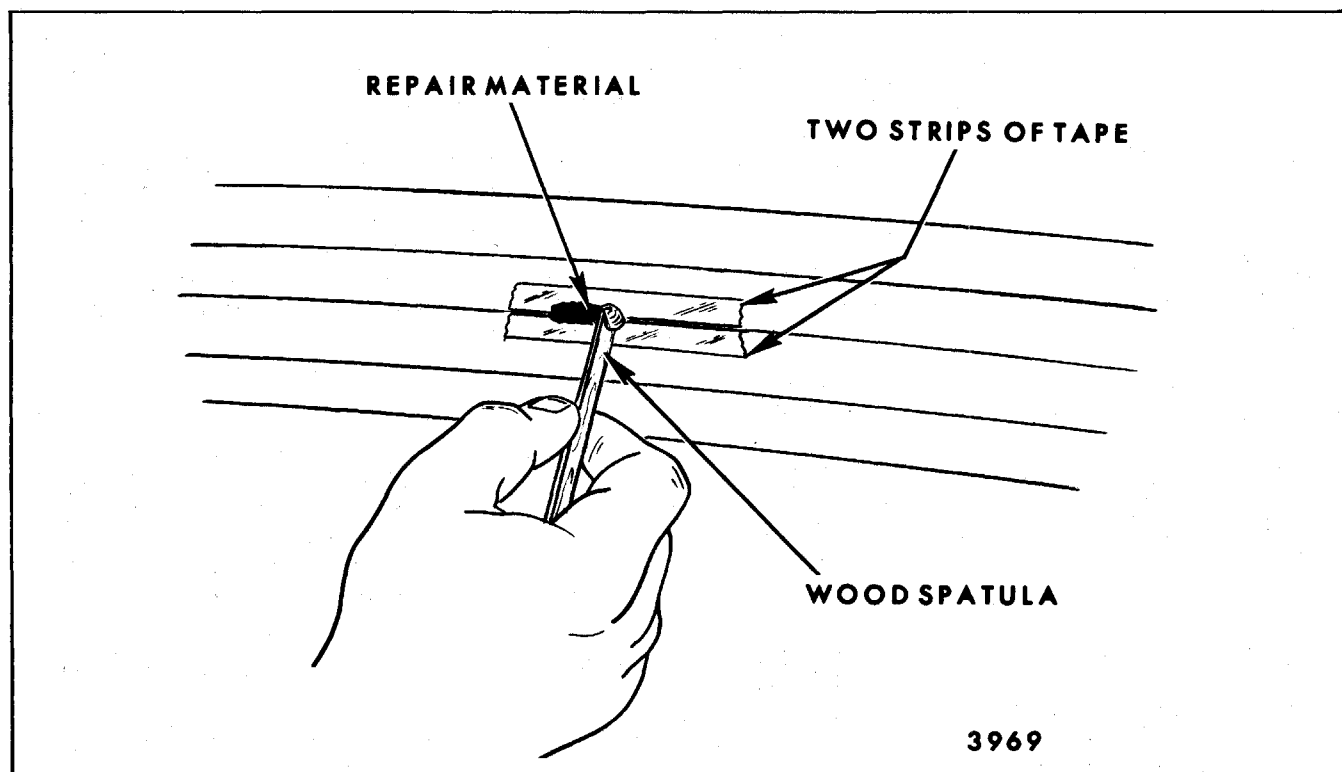

Fig. 10-87-Applying Repair Material to Broken Grid
7. With the glass at room temperature, apply the repair material with the small wooden mixing spatula, slightly overlapping the existing grid line either side of the break (Fig. 10-87).